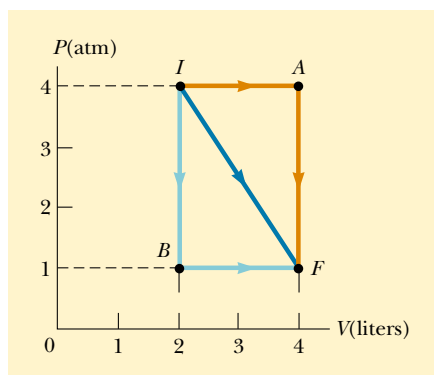

Figure P20.27
27. A gas expands from I to F along three possible paths, as indicated in Figure P20.27. Calculate the work in joules done by the gas along the paths IAF , IF , and IBF .